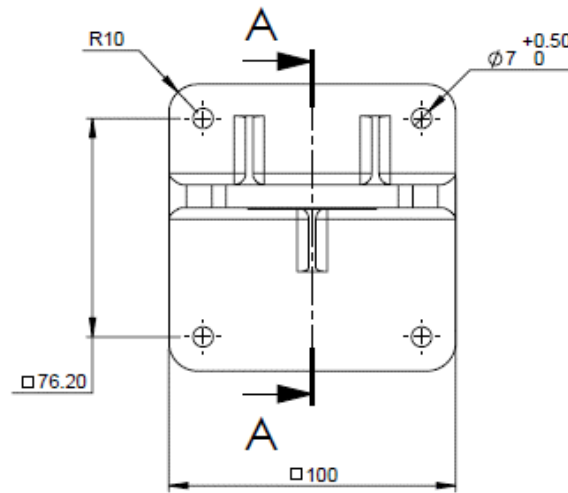

Figure 1: Tilt Mount Base - Rear View
- a) Place the tilt mount (Fig. 1) in its designated location and secure it with four screws through four 0.28" (7mm) diameter holes. There are four captive screws with spring washers in the tilt mount.